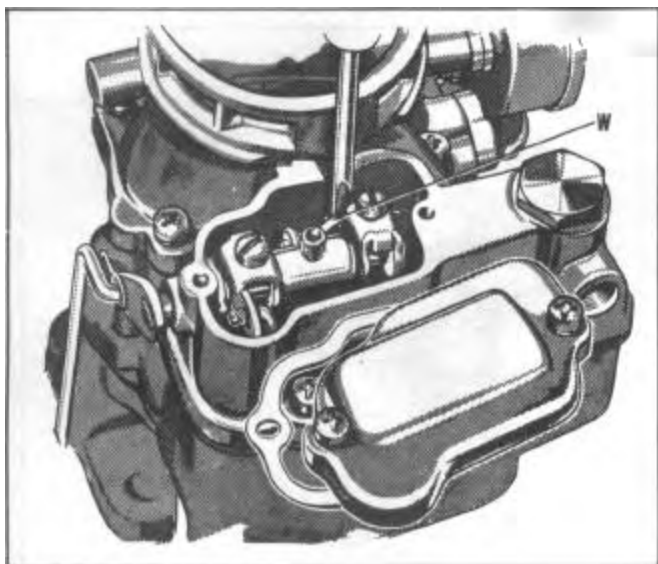

FIGURE 84
20. Install metering rods. Catch the metering rod spring loop with lower end of the metering rod as rods are inserted (W), Figure 84. Adjust metering rods in the following manner: